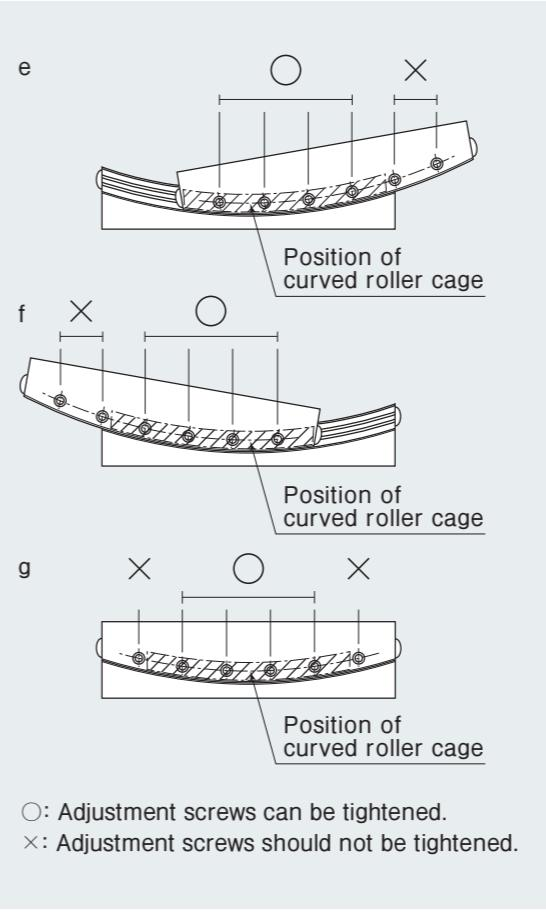

Fig.5 Installation method 2
- (8) Move the table to stroke end of one side and tighten adjust screw on curved roller cage lightly. (Fig. 5 e)
- (9) Move the table to stroke end of the opposite side and tighten adjust screw slightly. (Fig. 5 f)
- (10) Move the table to the center position and tighten adjust screw at center position slightly. (Fig. 5 g)
(11) Repeat above procedures from (8) through (10) until no play is confirmed. Once no more play exists, oscillation of the indicator becomes stabilized at minimum value, when the table is moved to left and right. Please take caution not to apply excessive preload.
(12) Conduct final adjustment for preload. In the manner described on above procedures from (8) through (10), tighten adjust screw by torque wrench following the torque recommended in <Table 3>
(13) Finally, stabilize rail ④, which is fitted temporarily. Installation bolts for rail ④ should be tightened in same sequence as adjust screws.